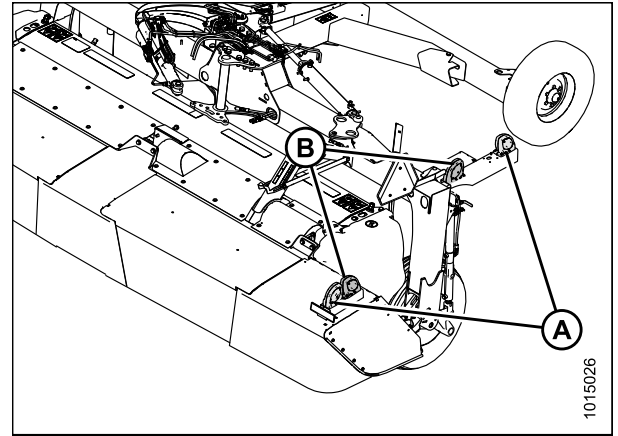

Figure 7.6: Lighting Locations (with Road Friendly Transport™)
- If the disc mower includes the Road Friendly Transport™ system, refer to Figure 7.6, page 191.